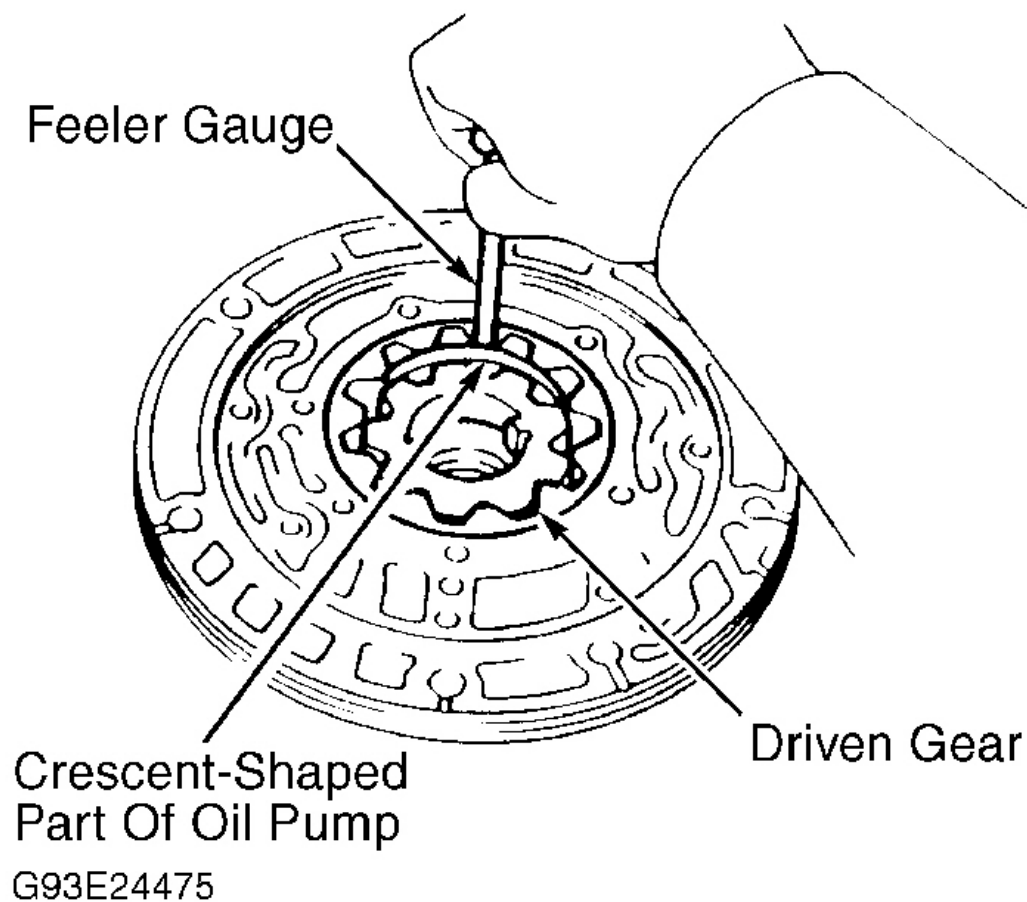

Fig. 32: Checking Oil Pump Gear Tip Clearance
2. Measure tip clearance between driven gear and crescent-shaped part of oil pump body. See **Fig. 32** . Replace oil pump body if clearance is not within specification. See **OIL PUMP CLEARANCE SPECIFICATIONS** table.